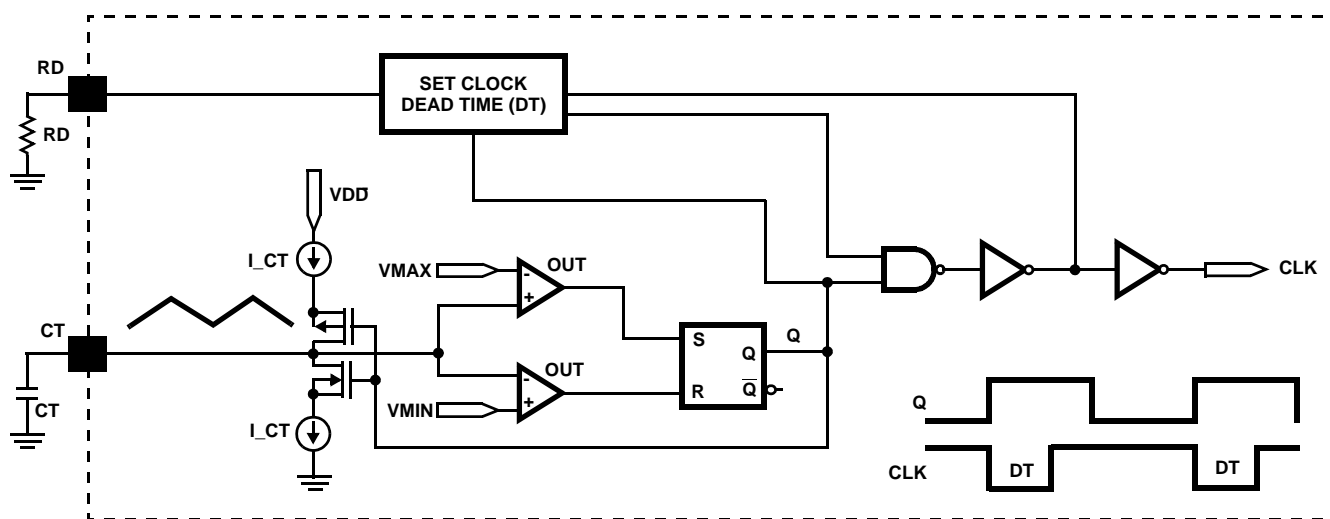

FIGURE 1. SIMPLIFIED CLOCK GENERATOR CIRCUIT
- This free-running oscillator is set by two external components as shown in Figure 1. A capacitor at CT is charged and discharged with two equal constant current sources and fed into a window comparator to set the clock frequency. A resistor at RD sets the clock dead time. RD and CT should be tied to the VSS pin on their other ends as close as possible. The corresponding CT for a particular frequency can be selected from Figure 2.